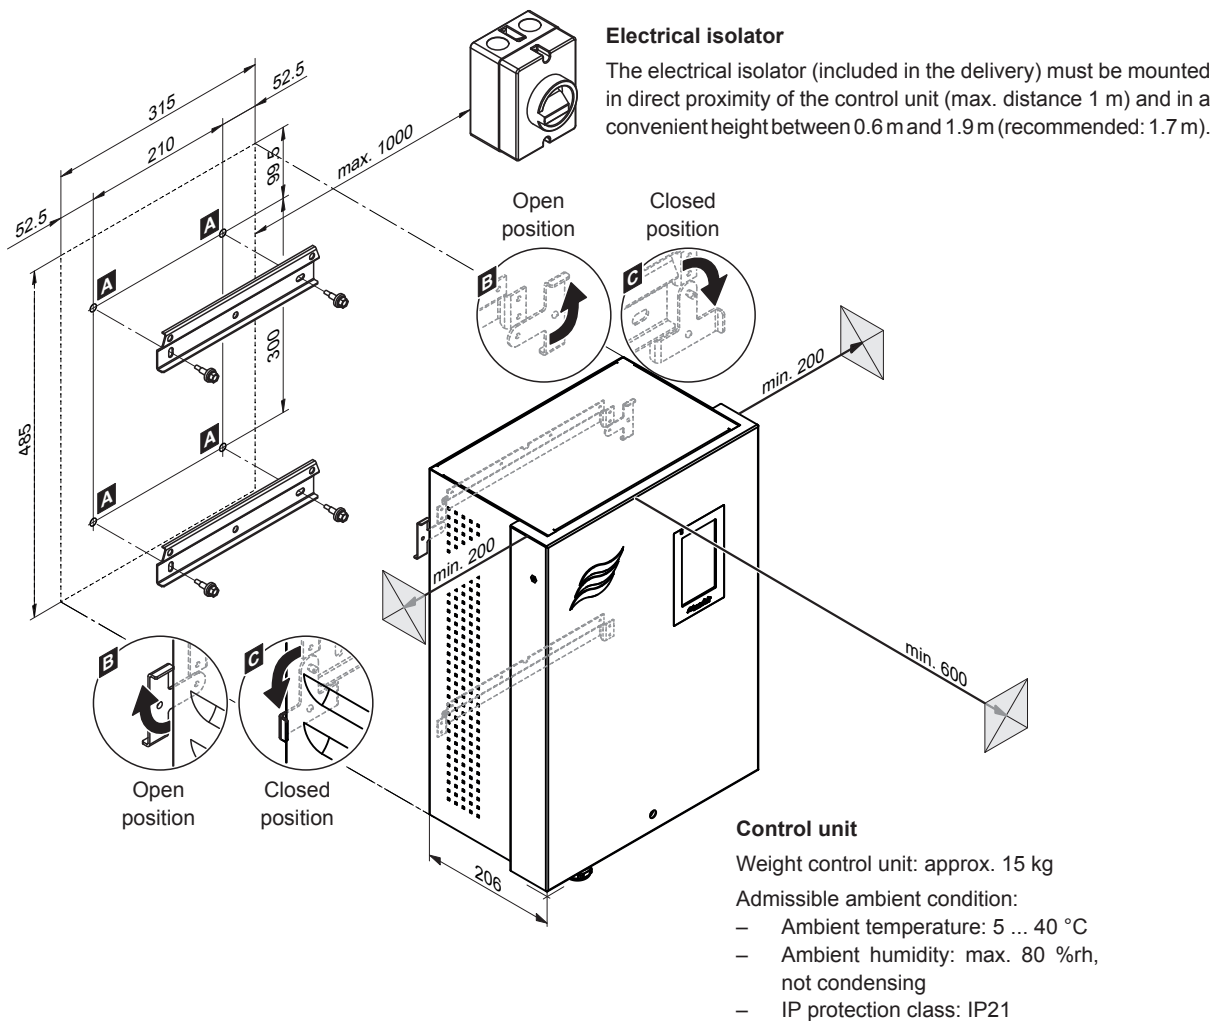

Fig. 35: Mounting the control unit - dimensions in mm
3. Move the locking devices on the back of the control unit to open position (see detail "B" in Fig. 35).
4. Hang up the control unit onto the wall supports. Then, secure the control unit to the upper wall support by turning the locking devices on both sides of the control unit to closed position (see detail "C" in Fig. 35).